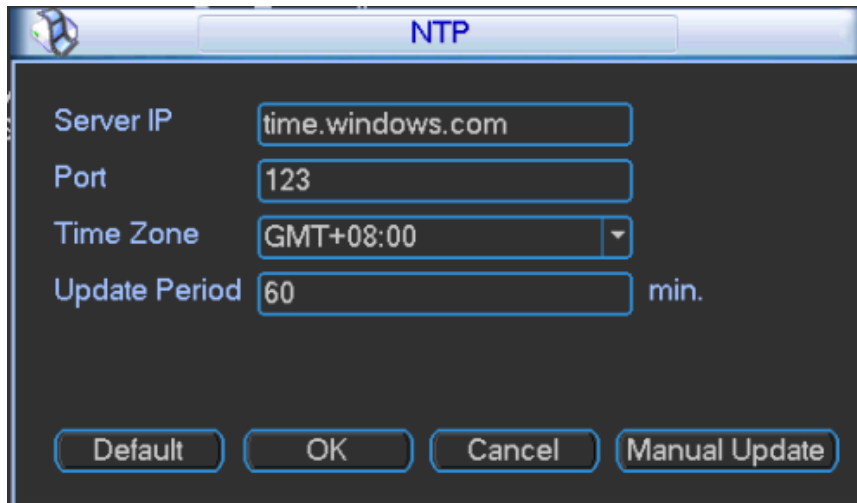

Figure 3-40
Step 1 In main menu, select “Setup> Network> Network Setup > NTP”, and the system displays “NTP” interface, as shown in Figure 3-40.